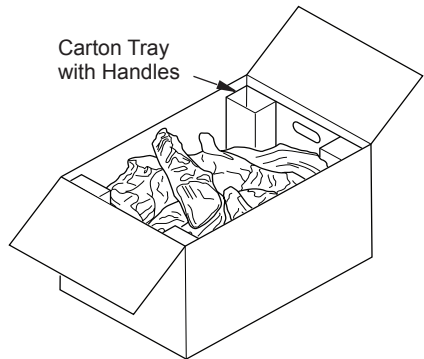

Figure 1 - Log Set in Packing Box
1. Remove entire contents of box using tray handles (see Figure 1).
- Figure 1 shows a plan view of a few common locations.